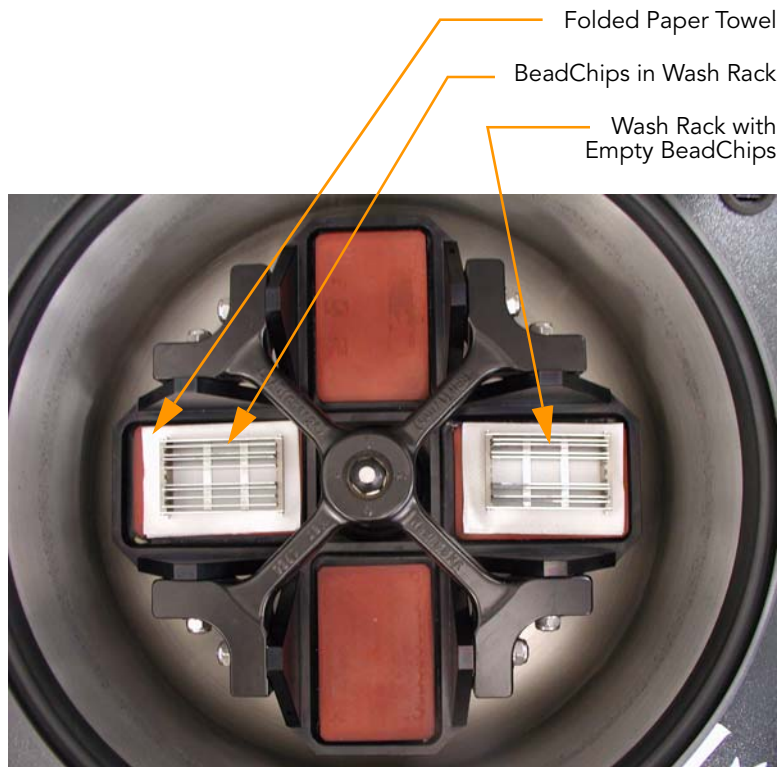

Figure 171 Balancing BeadChip Racks in Centrifuge
8. Place another rack loaded with empty BeadChips in an opposite rotor position for balance (Figure 171).